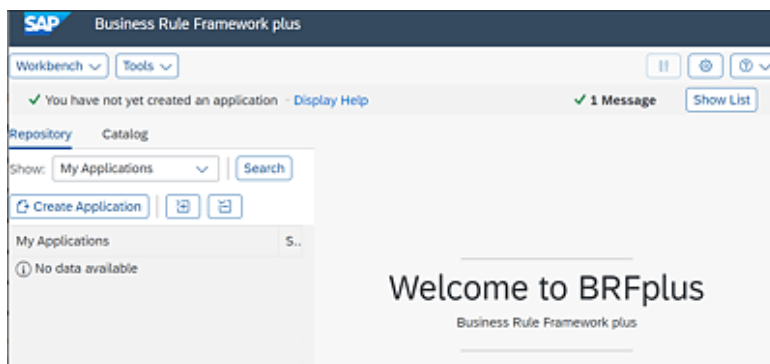

Figure 10.1 BRFplus Landing Page
Figure 10.1 shows the user interface (UI) workbench for creating, updating, and deleting the business rules. This UI component can be accessed via Transaction BRF+ or Transaction BRFPLUS.